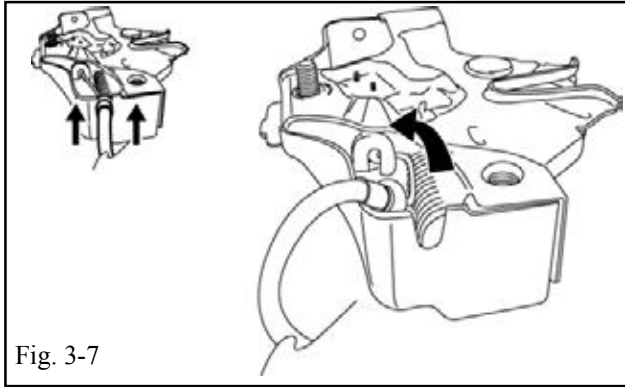
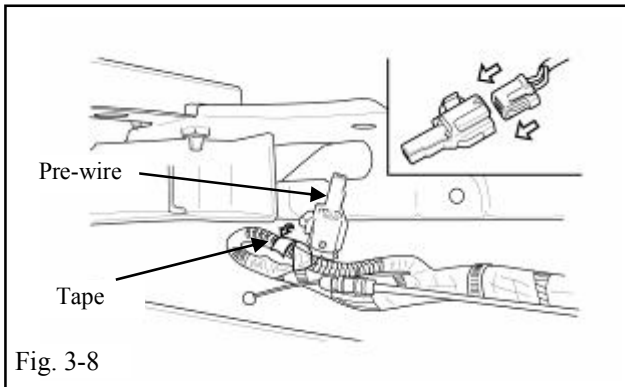
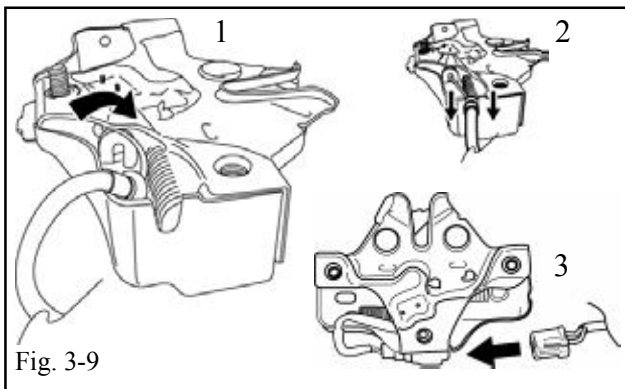

Fig. 3-7
Fig. 3-8
Fig. 3-9
- (h) Disconnect the Vehicle Hood Latch from the Hood Latch Cable. (Fig. 3-7)
- (1) Pull the Cable upwards and out of the notch in the Vehicle Hood Latch Casing.
- (2) Use the Braided Cable to guide the Ball out of the Vehicle Hood Latch.
- (3) Discard the Vehicle Hood Latch.
- (i) Locate the Hood Switch Pre-wire, Black 2P Connector, and remove the tape securing it. (Fig. 3-8)
- (j) Remove the Connector Cover from the Hood Switch Pre-wire. (Fig. 3-8)
- (1) Discard the Connector Cover.
- (k) Connect the V4 Hood Latch to the Vehicle Hood Latch Cable. (Fig. 3-9)
- (1) Use the Braided Cable to guide the Ball into the V4 Hood Latch Lever.
- (2) Affix the Cables Shielding to the V4 Hood Latch Case by pressing it down into the Notch in the Case.
- (l) Connect the Black 2P Hood Switch Pre-wire to the V4 Hood Latch. (Fig. 3-9)
- (1) Verify that the connector is secured.